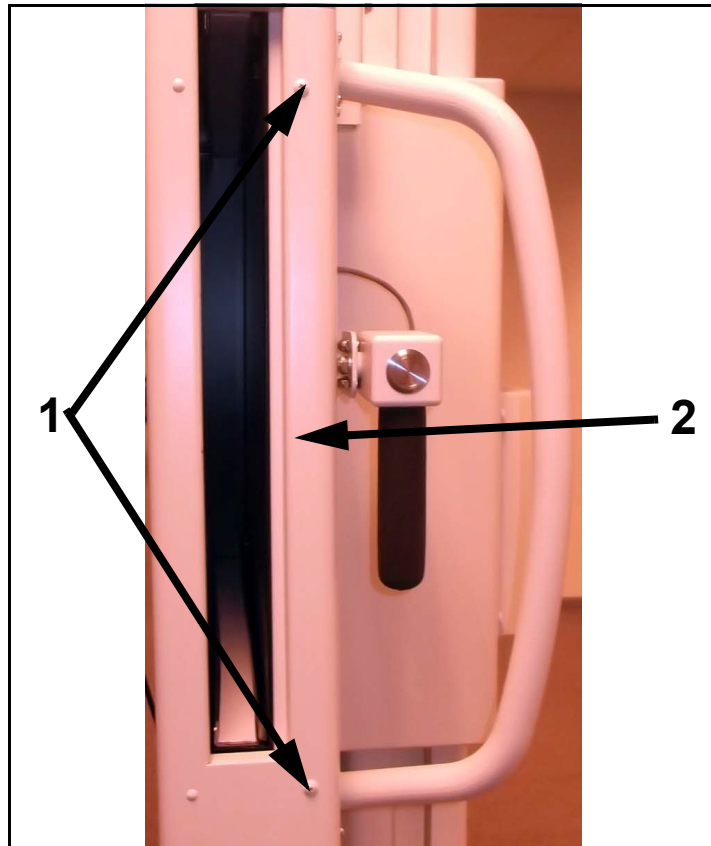

Figure 6-24. Right Side Panel & Front Panel
- 7 Unscrew the two right side cover screws (1 in Figure 6-24) and remove the side cover (2).